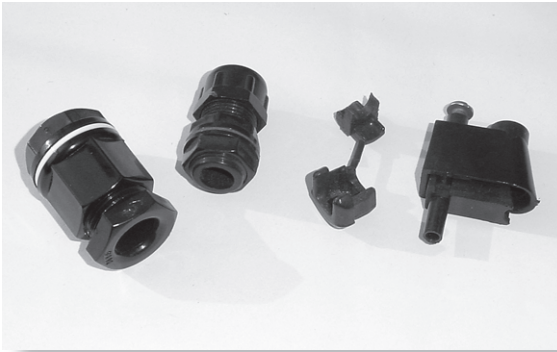

FIGURE 6.30 Cable entry clamps for use when mains cable enters a housing.
- **IN general, use a metal housing for any electronic circuit you construct that has a mains power supply.** Use three-core mains cable (ie, with live, neutral, and earth wires), and make sure the cable enters the housing using a good quality cable entry clamp, properly tightened so that connections are not strained. A selection of cable entry clamps is shown in Figure 6.30. You must ensure the clamp is the correct size for the cable used.